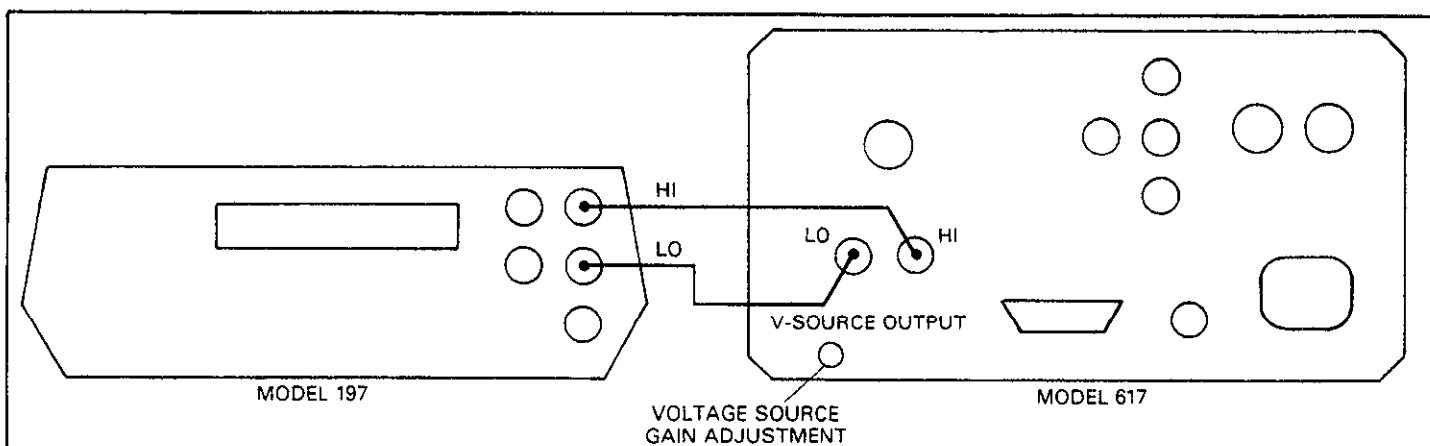

Figure 7-10. Connections for Voltage Source Calibration
1. Connect the DMM to the voltage source output, as shown in Figure 7-10.